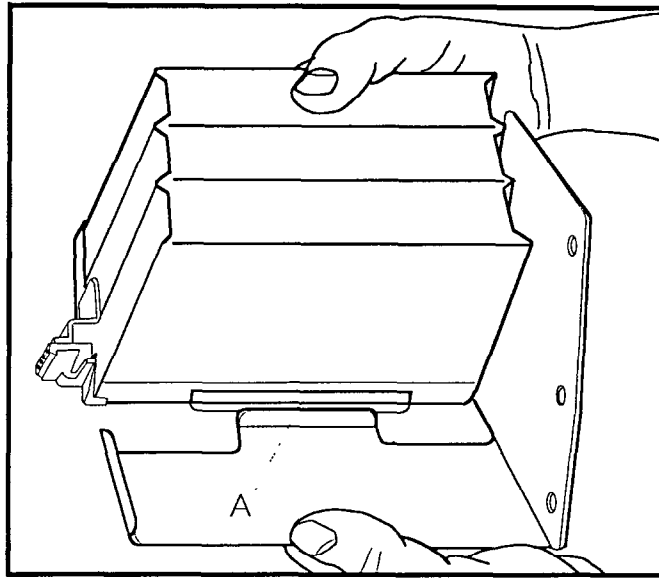

Figure 2-7. Fitting the Battery Holder Tab Into the Battery Slot.
2. Install the battery on the battery holder. Make sure the tab on the door fits into the slot on the battery (refer to Figure 2-7).